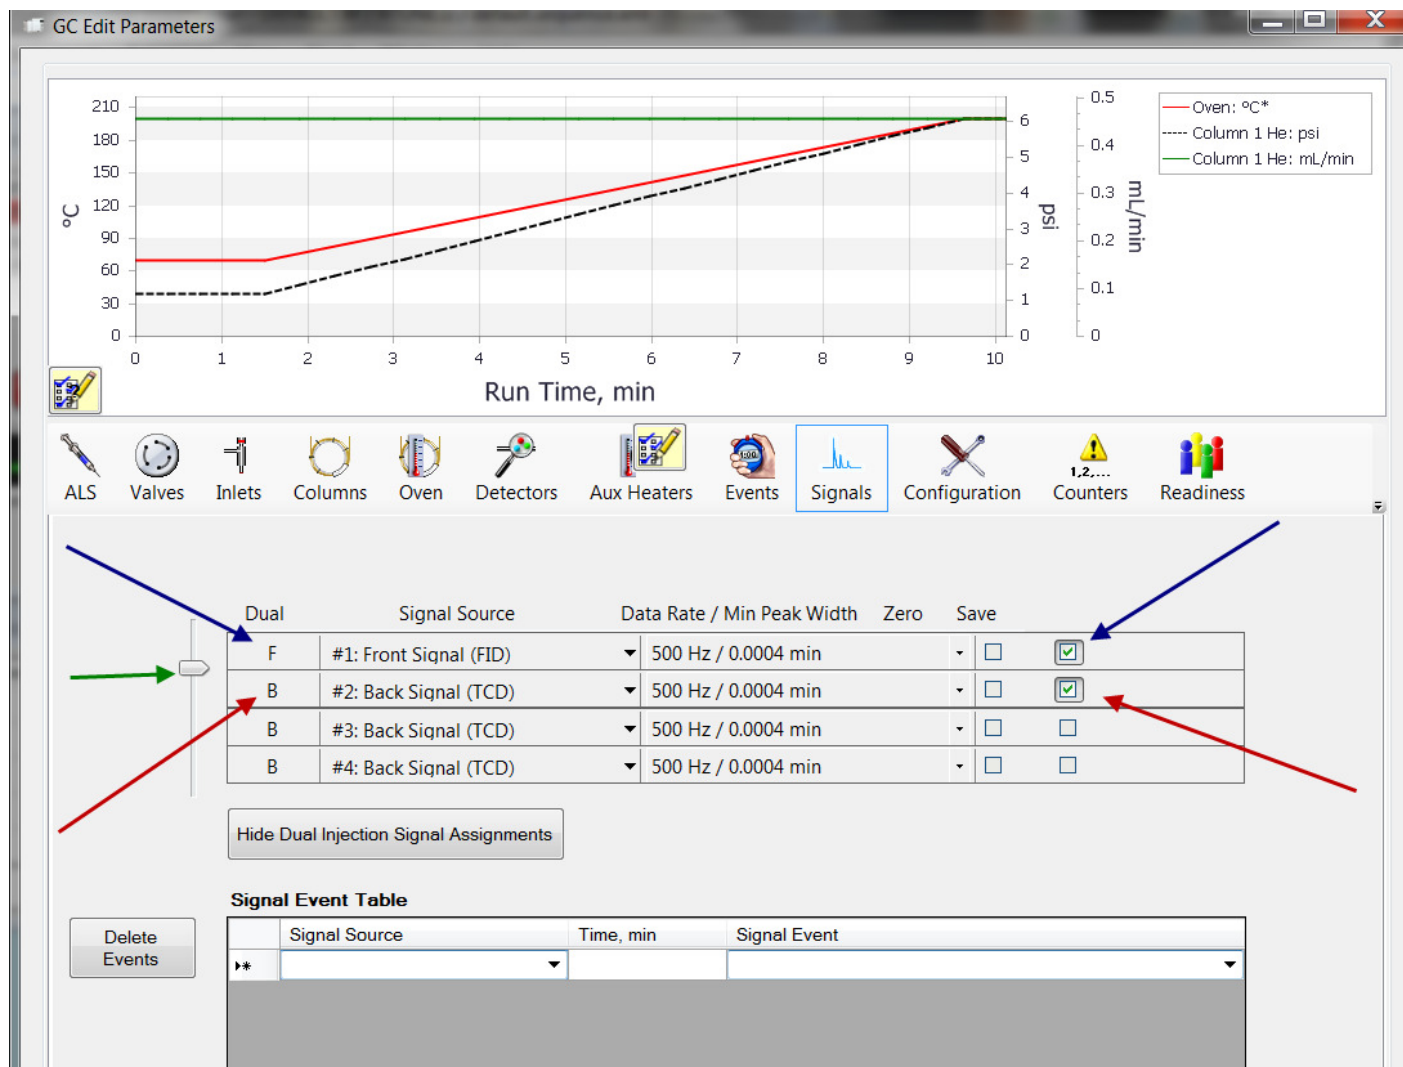

Figure 2
Parameters. Please refer to Figure 2. Note that in our example, we are using “Front Signal (FID)” and “Back Signal (TCD)” as the source of our GC data. In reality, you would set the source to be the actual GC detectors.
Now in Figure 2, you can set the method to Save Data for 1 GC detector (blue arrow) or you can set it to Save Data for the second detector (red arrow), or you can set it to save both. Now the slider bar (green arrow) on the left hand side needs to be set accordingly. If only acquiring just one signal then the bar would be raised to the top, but if acquiring dual GC signals it must be placed on the line between the first line (F) and second line (B).